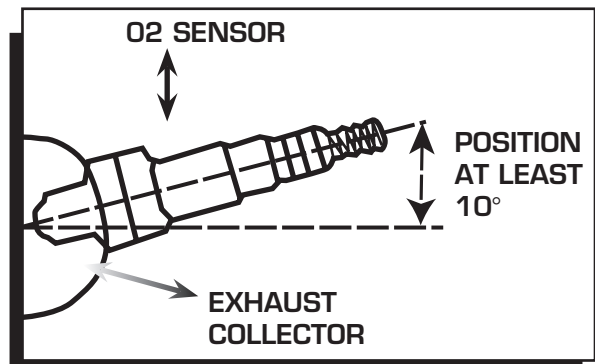

Figure 27 WBO2 Sensor Location.
- b. The WBO2 sensor should be at least 10° above horizontal to allow condensation runoff. Without this angle the sensor is significantly more likely to sustain water damage (Figure 27).